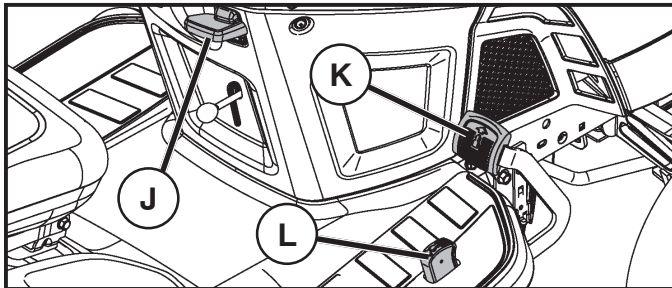

Fig. 23
(See Fig. 23)
- Slowly depress forward (K) or reverse (L) drive pedal to begin movement. Ground speed increases the further down the pedal is depressed.
TO USE CRUISE CONTROL (J) (See Fig. 23)